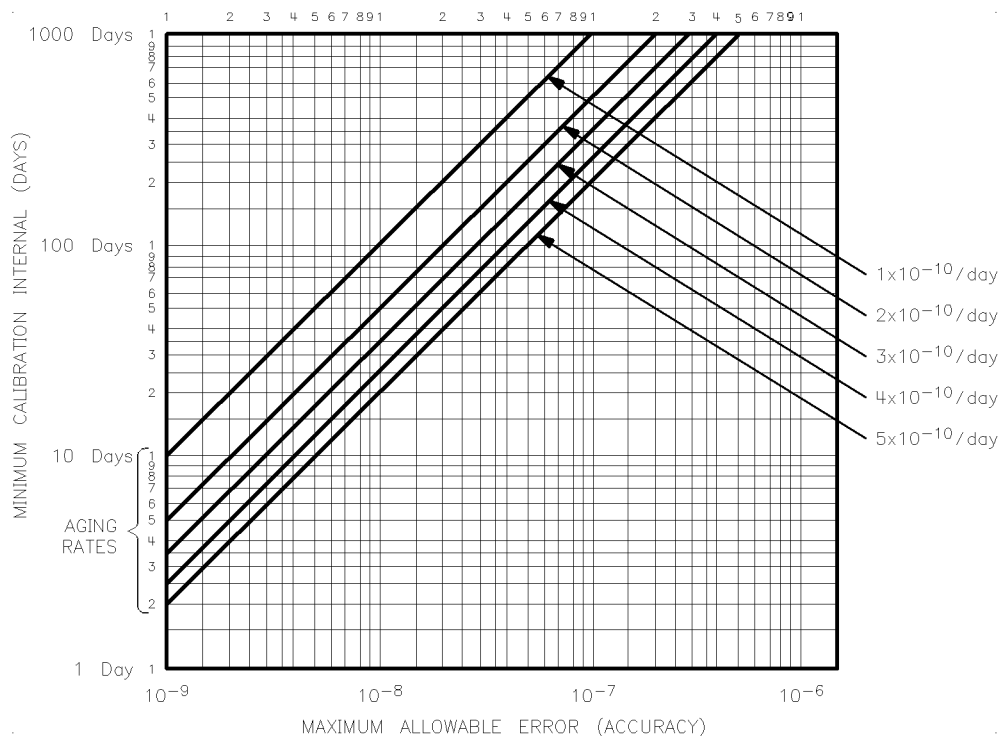

Figure 3-3. Accuracy Versus Adjustment Interval
This procedure adjusts the frequency accuracy of the internal 10 MHz time base. This adjustment should be done on a regular basis if absolute frequency accuracy is important (see Figure 3-3.)
Figure 3-3 shows the required adjustment interval to maintain a given accuracy. If you know the aging rate, you can determine a more precise adjustment interval.
1. Find the line on Figure 3-3 that corresponds to the 10 MHz timebase oscillator aging rate. (To determine the aging rate, see “Performance Tests”.)